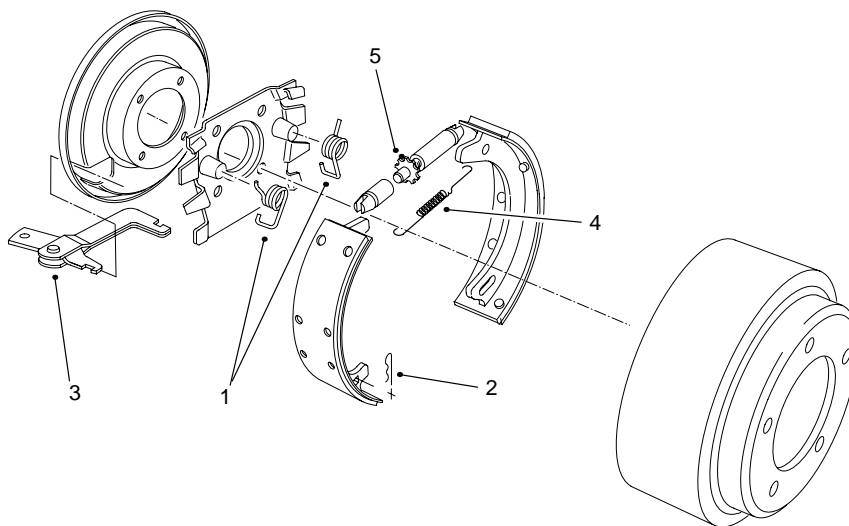

Figure 21
7. Remove brake shoe return spring (Fig. 21) by prying the end of the spring up and out of the brake shoe. Use a brake spring pliers or flat blade screwdriver.
Wear a face shield when removing brake return spring (Fig. 21). The spring is under tension and could possibly slip during removal.